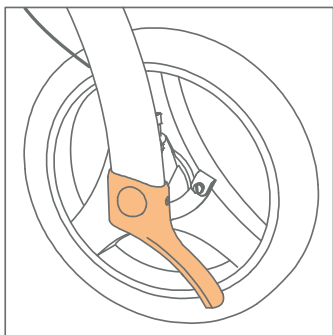
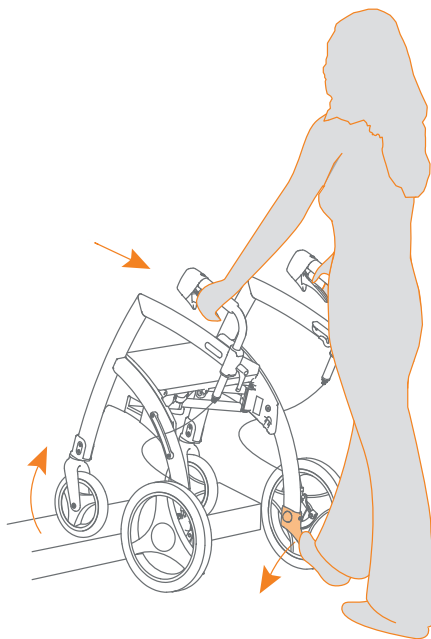

Figure 24: Use the curb assistant.
Figure 25: Getting on the curb or pavement or go over a threshold.
- b. Push the left or right curb assistant (**Figure 24**) down with your left or right foot, while tilting the Rollz Motion towards you with your hands. This way, the front wheels get off the ground. Now push the Rollz Motion forward until you are clearly on the curb or over the threshold with the front wheels (**Figure 25**).